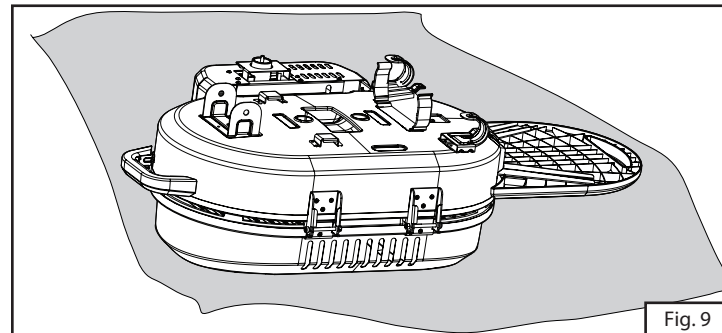

Fig. 9
7. Turn over the grill and place onto a soft surface. (Fig. 9)